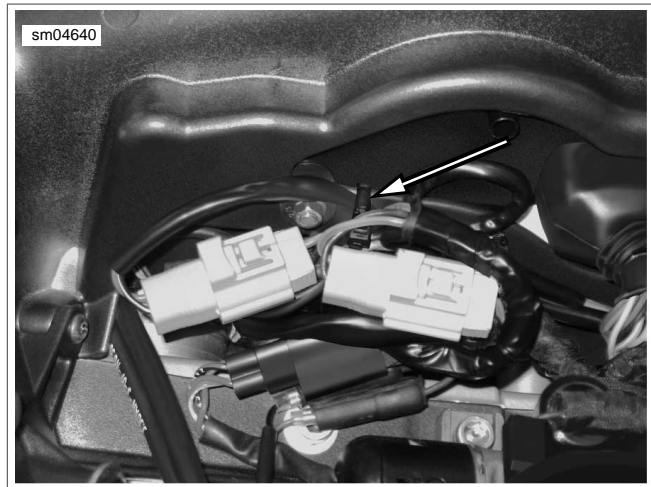

Figure 6-36. Location of Cable Strap Securing the Right Side Hand Grip Wire Below the Instrument Cluster
6. See Figure 6-36. On the right side, install a cable strap securing the heated grip lead and hand control wires together under the right hand side of the instrument cluster.